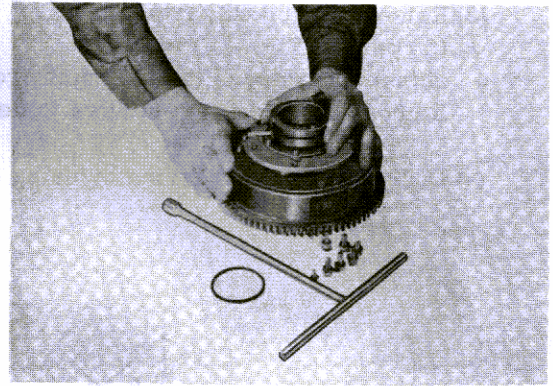

Fig. 42
- (2) Remove the six 6 mm bolts and pull up the bracket assembly with the driven member assembly attached. (See Fig. 42)